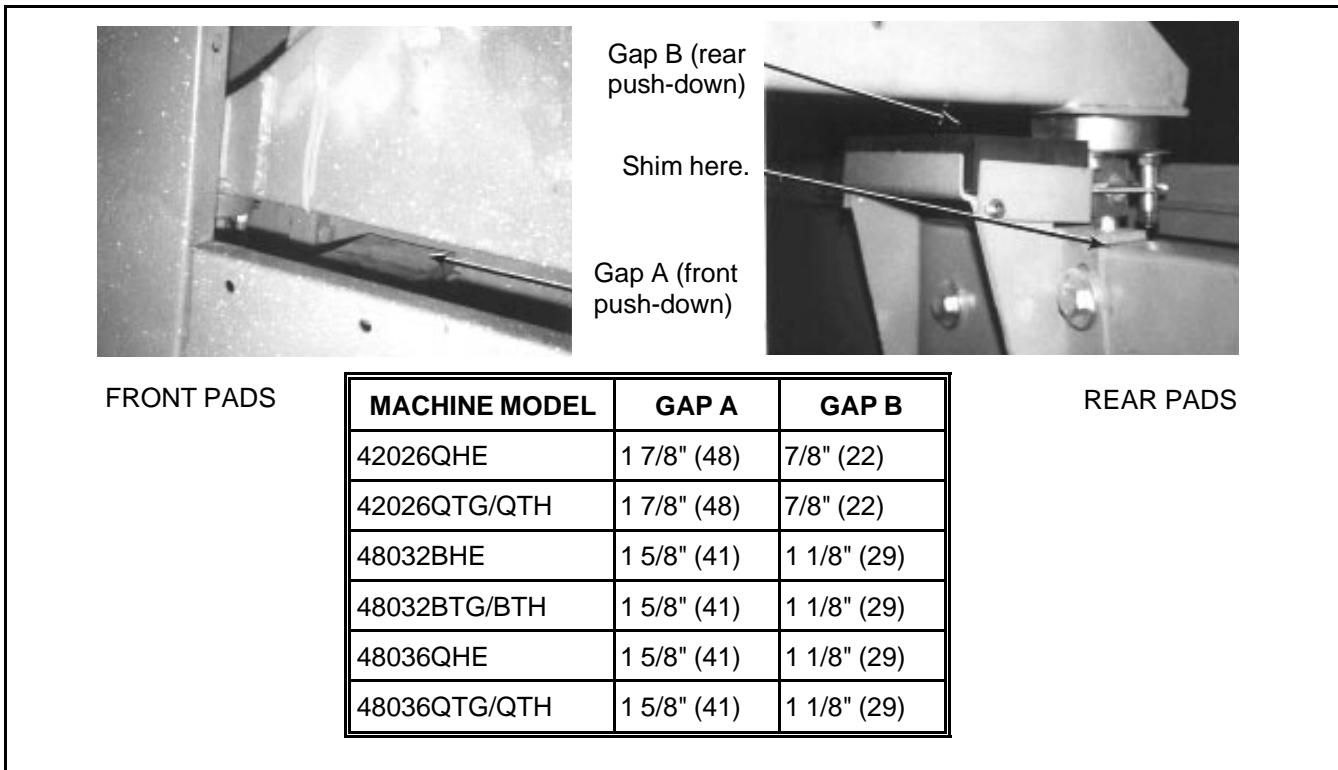

FIGURE 4 (MSSM0208AE)
Push-Down Travel Dimensions and Adjustment Procedures—The arrangement of push-down stops on these machines is as shown in FIGURE 4. Each of the two rubber rest pads on the front of the machine may be raised or lowered by adding shims to or removing them from beneath the rubber pads. The rear rest pad may be adjusted by loosening the bolts on the adjustable bracket, adding shims to or removing them from between the adjustable bracket and the lower rear frame cross member, then retightening the bolts. (Extra shims and adhesive for securing them was provided with your machine.) The push-down travel dimension must be as shown for your machine in the table in FIGURE 4.
1. With the *Master switch* set to *off* and the shell hanging free, verify that gaps A and B as shown in FIGURE 4 are correct for your machine. If not, adjust the shims as required.